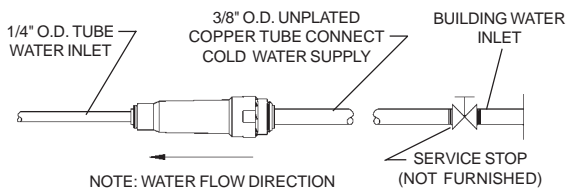

FIG. 16
8. Connect drain and water supply lines to the freeze resistant fountain. Refer to Figure's 1 thru 10 for component positions. Inline strainer must be used on the inlet water line. See Fig. 16.